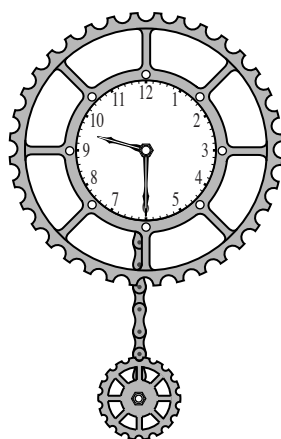

Fig. 1
16 Fig. 1 shows a clock made from recycled bicycle parts and a standard clock mechanism.
- (b) With reference to the clock shown in Fig. 1, explain the meaning of the following **three** terms.
- (c) The clock shown in Fig. 1 is designed to hang on a wall.